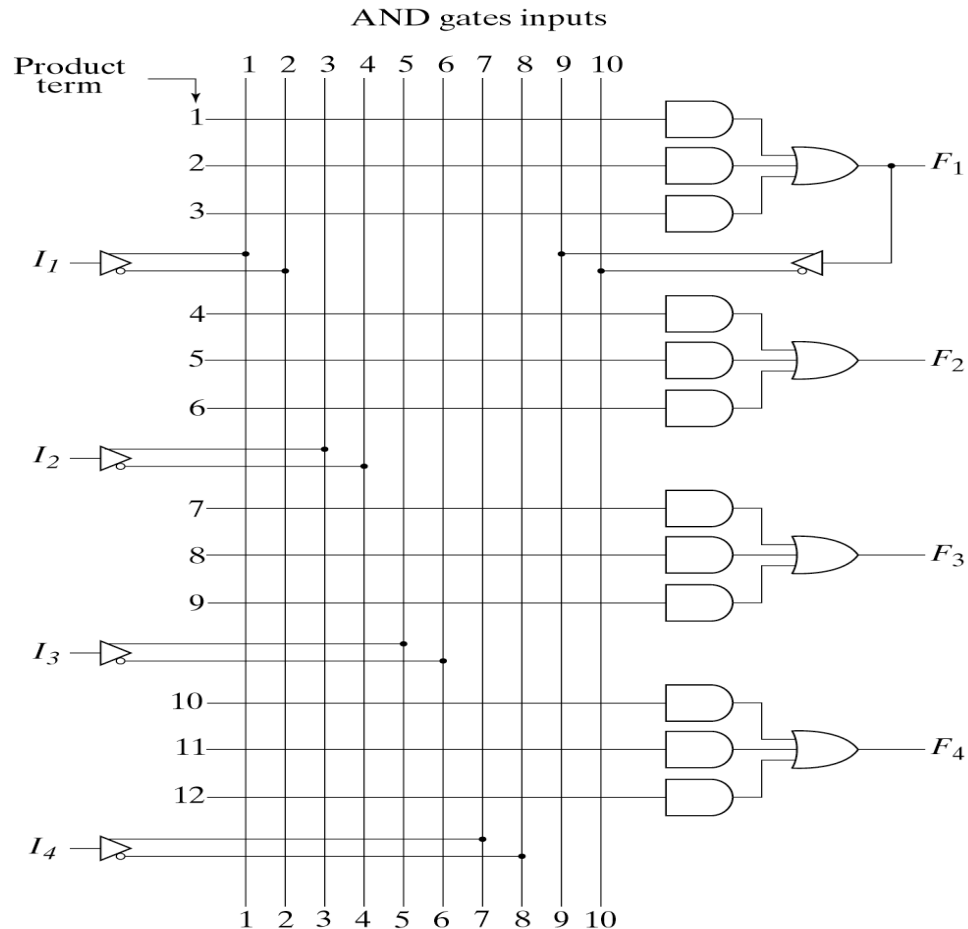

Fig. 7-16 PAL with Four Inputs, Four Outputs, and Three-Wide AND-OR Structure
- The AND-OR array is the same as in the combinatorial PAL shown in Fig.7-16.